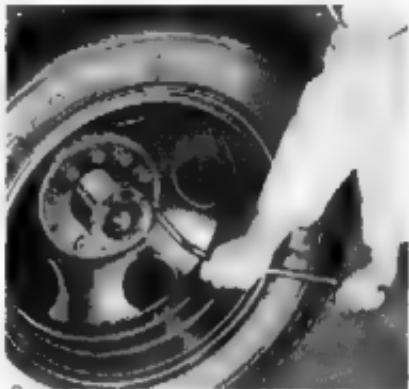

Fig. 47—Tightening Wheel Nuts
**Care.** Keep the wheel to hub or axle flange bolt nuts securely tightened (fig. 47). In case the hub flange or wheel disc should become coated with oil or grease the wheel should be removed and all grease removed with cleaning solvent. Reinstall wheel and tighten bolts securely.